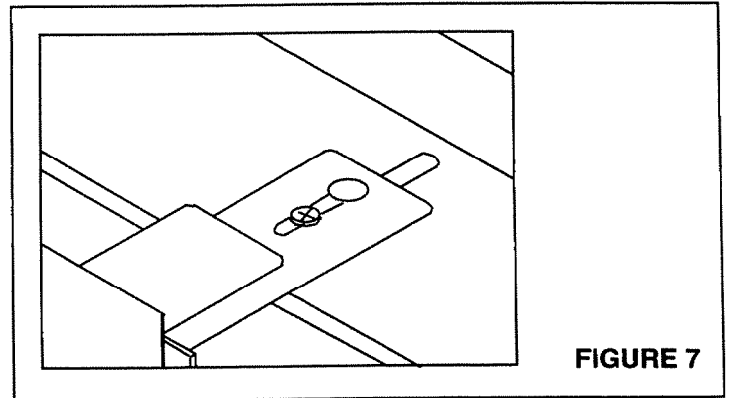

FIGURE 7
4. Refer to Figure 7. Slide one hinge toward inside of rough-in frame as far as possible and securely tighten the screw. Position and secure the second hinge.